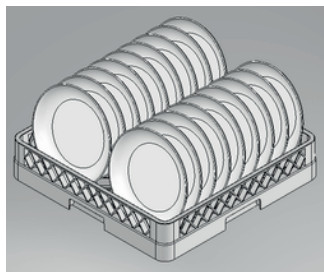

Fig. 6
- You must necessarily join the device to the installation of equalising electrical potentials with the help of equipotential bolt (Fig. 6 Pos. 1) placed in the back of the device. It is marked by the following symbol:  (IEC 60417-5021)